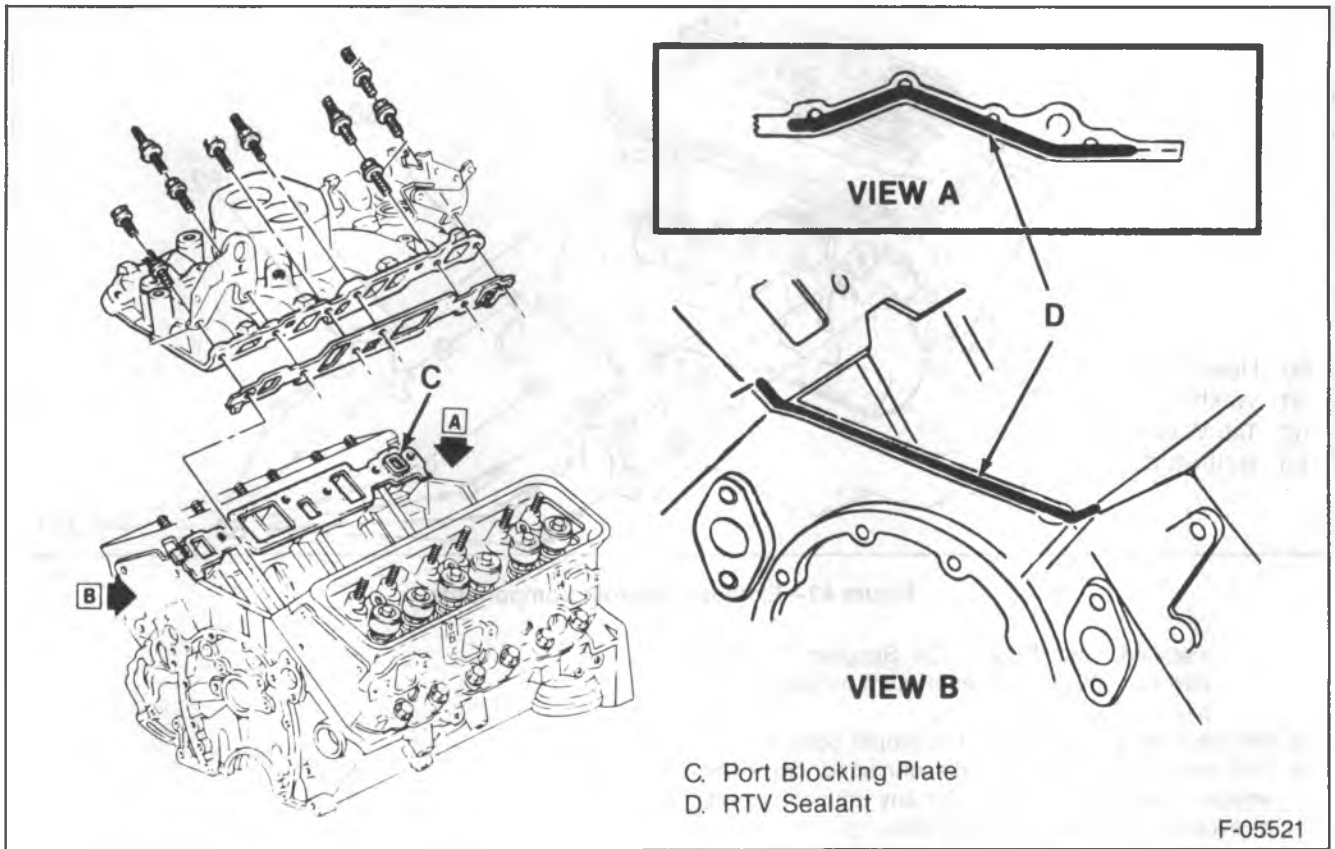

Figure 40—Intake Manifold Installation
↔ Install or Connect (Figures 40 and 41)
2. RTV to the front and rear sealing surfaces on the block. Apply a 5 mm (3/16-inch) bead of RTV (GM Part No. 1052366 or equivalent) to the front and rear of the block as shown in figure 40. Extend the bead 13 mm (1/2-inch) up each cylinder head to seal and retain the gaskets.